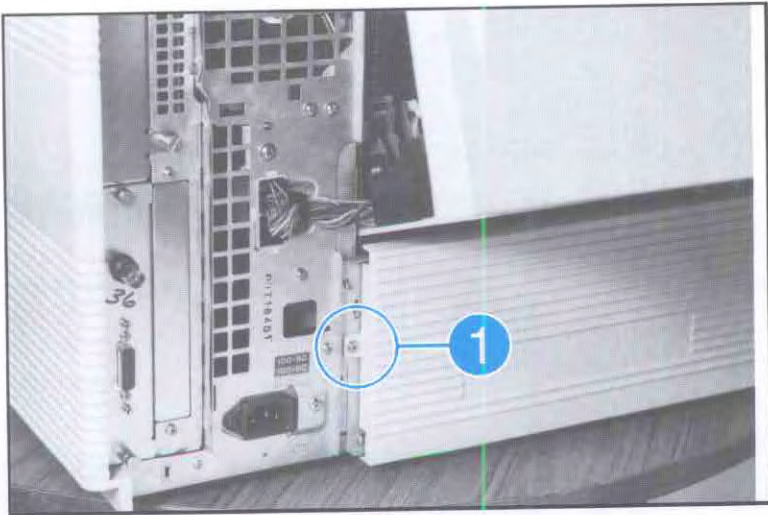

Figure 6-11. Lower Rear Cover
2. Remove the (1) screw securing the Lower Rear Cover (see Figure 6-11, callout 1).